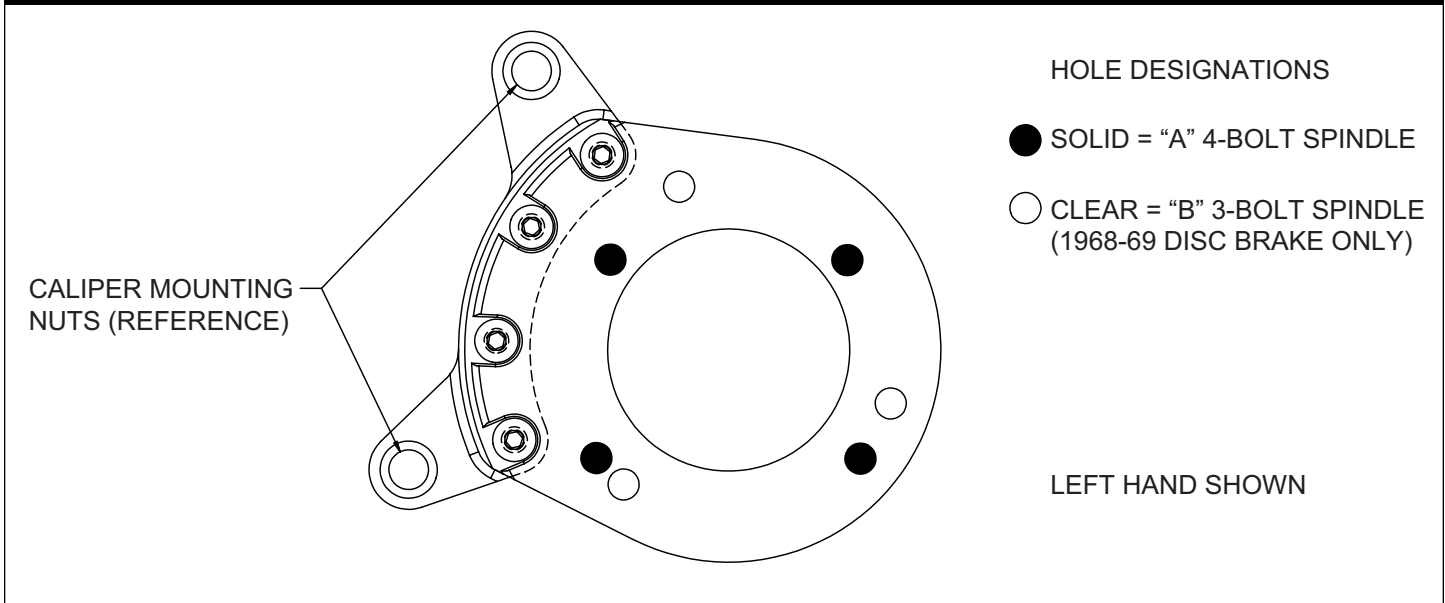
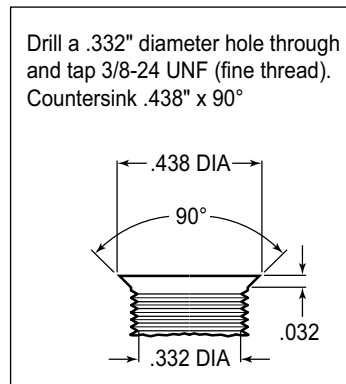
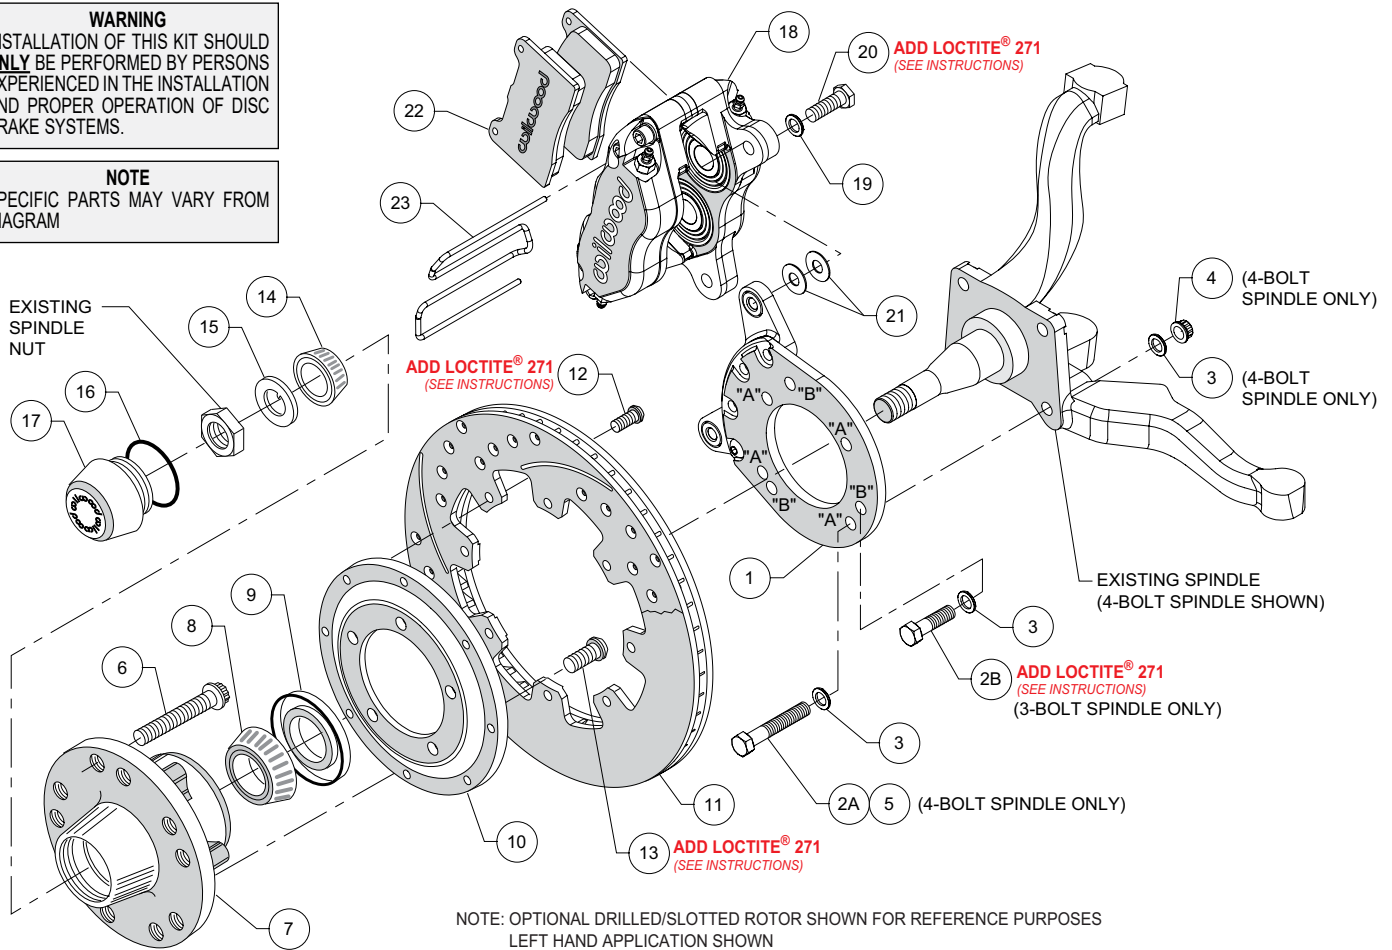
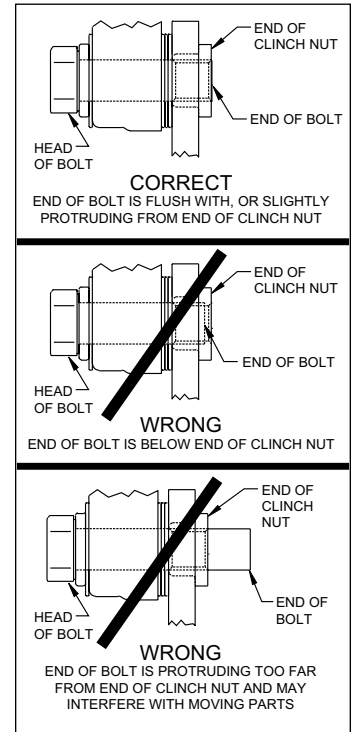

Figure 1. Wilwood Caliper Mounting Bracket
Figure 2. Drill and Tap Detail
Figure 4. Typical Installation Configuration
Figure 5. Clinch Nut Engagement Diagram
This kit has been designed for use with both three and four bolt spindle configurations. The only difference is in how the Wilwood caliper mounting bracket is installed. The same bracket is used for both configurations; only the 1968-69 disc brake spindle utilizes three mounting holes while all other spindles use the four mounting holes (see Figure 1). For your convenience we have supplied bolt kits for both applications (see parts list and Figure 4 as necessary). Use the bolt kit that is applicable to your vehicle and disregard the other one.
**NOTE:** This modification should be performed by a qualified machinist and completed before assembly of the Wilwood disc brake kit begins. Using the caliper mounting bracket as a template (refer to Figure 1 as necessary), locate and verify the three original holes on the spindle that need to be modified. Drill a .332" diameter hole through all three holes, then tap 3/8-24 UNF (fine thread). Countersink the holes to .438" diameter x 90°, as shown in Figure 2.
**NOTE:** Numbers in parenthesis refer to the parts list on the preceding page and Figure 4.
**CAUTION:** All mounting bolts must fully engage clinch nuts. Be sure to check that all bolts are either flush or protruding through flanged side of clinch nut after shimming, Figure 5.
•**NOTE:** This kit uses the same mounting bracket (1) for both the three and four bolt brake spindles. The 4-bolt version, Photo 1, uses four mounting bolts (designated "A"), while the 3-bolt version, Photo 2, uses three (designated "B"). Refer to Figures 1 and 4 for the basic installation position of the bracket and the "A" and "B" reference designations (not physically marked on the brackets).
**For 4-Bolt Spindle:** Align bracket, using the four "A" holes, to the face of the spindle and attach using bolts (2A and 5), washers (3), and lock nuts (4), as shown in Figure 4. Ensure that the flanged heads of the clinch nuts in the bracket are facing outboard, Photo 1. Torque nuts to 30 ft-lb.
**For 3-Bolt Spindle (1968-69 Disc Brake):** Align bracket, using the three "B" holes, to the face of the spindle and attach using bolts (2B) and washers (3), as shown in Figure 4. Finger tighten. Ensure that the flanged heads of the clinch nuts in the bracket are facing outboard, photo 2. Remove bolts one at a time, apply red *Loctite*® 271 to threads, and torque to 40 ft-lb.
- Install the grease seal (9) by pressing into the backside of the hub (7), flush with the end of the hub, Photo 4.
- Orient the rotor (11) and the rotor adapter (10) as shown in Figure 4 and Photo 5. Attach the rotor to the adapter using bolts (12). Using an alternating sequence, apply red *Loctite*® 271 to the threads, and torque to 25 ft-lb.
- Mount the adapter/rotor assembly (10/11) to the hub (7) using bolts (13), as shown in Figure 4 and Photo 6. Using an alternating sequence, apply red *Loctite*® 271 to the threads, and torque to 45 ft-lb.
- NOTE:** Please reference the caution statement at the beginning of the assembly instructions. Mount the caliper (18) onto the caliper mounting bracket (1) using bolts (20) and washers (19), as shown in Figure 4. Initially place two .035" thick shims (21) on each bolt between the caliper and the bracket, Photo 9. Temporarily tighten the mounting bolts and view the rotor (11) through the top opening of the caliper. The rotor should be centered in the caliper, Photo 10. If not, adjust by adding or subtracting shims between the bracket and the caliper. Always use the same amount of shims on each of the two mounting bolts. **NOTE:** The end of each bolt must be flush with or slightly protruding from the head of the clinch nut, as shown in Figure 5. If necessary place spare shims between washer (19) and caliper mounting ear to achieve the proper clinch nut engagement. Once the caliper alignment and clinch nut engagement are correct, remove the bolts one at a time, apply red *Loctite*® 271 to bolt threads, and torque to 40 ft-lb.